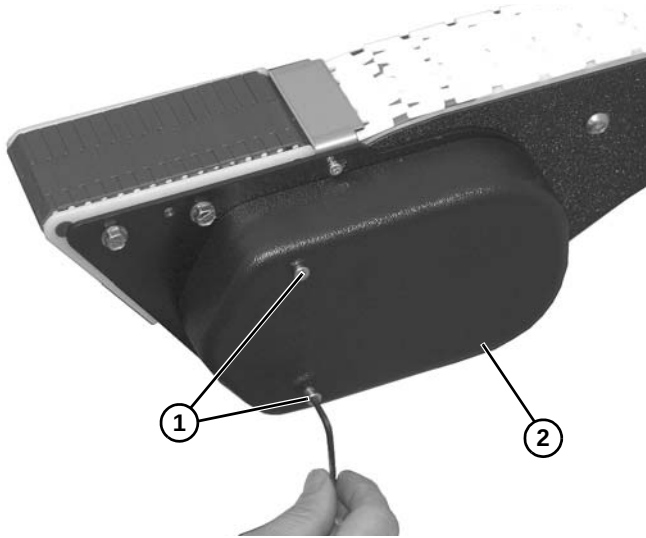

Figure 102
1. Remove two hex head screws (**Figure 102, item 1**) and cover (**Figure 102, item 2**) from power transfer assembly.